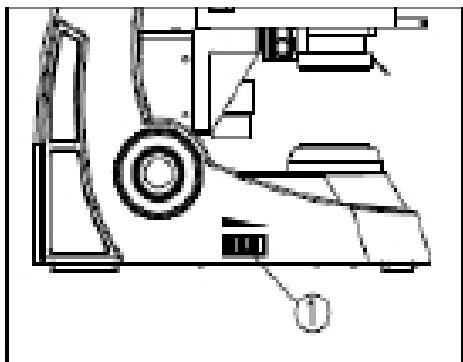

Fig. 8
1. Turn on the main power switch to “O” (ON).
2. Adjust the dimmer knob (1) until the desired illumination is reached. Rotate the dimmer knob clockwise to increase the brightness. Rotate the dimmer knob counterclockwise to reduce the brightness (see Fig. 8).